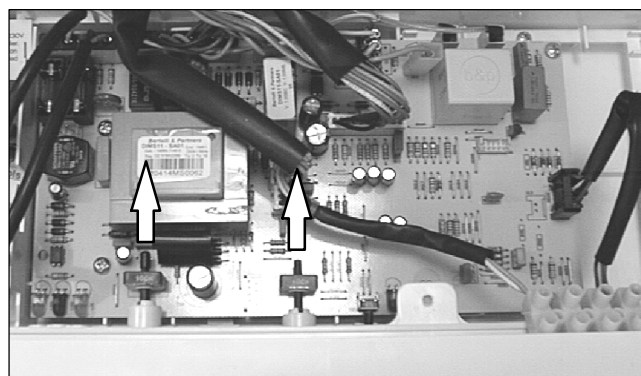

Fig. 47
- 3 Remove the spindles of the c.h. and d.h.w. temperature adjustment knobs by delicately pulling them with pliers in the direction shown by the arrow in Fig. 47.